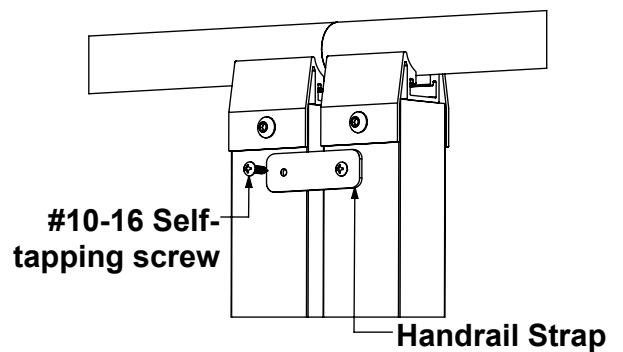

Fig. 3.14
3.6 MULTIPLE PLATFORM ASSEMBLY: With both platform bases completely assembled and connected at the seam, (Fig. 3.13) attach landing handrail strap to the landing post. Position and attach landing handrail strap on center with landing post just below the top handrail using a #10-16 self-tapping screw (Fig. 3.14).